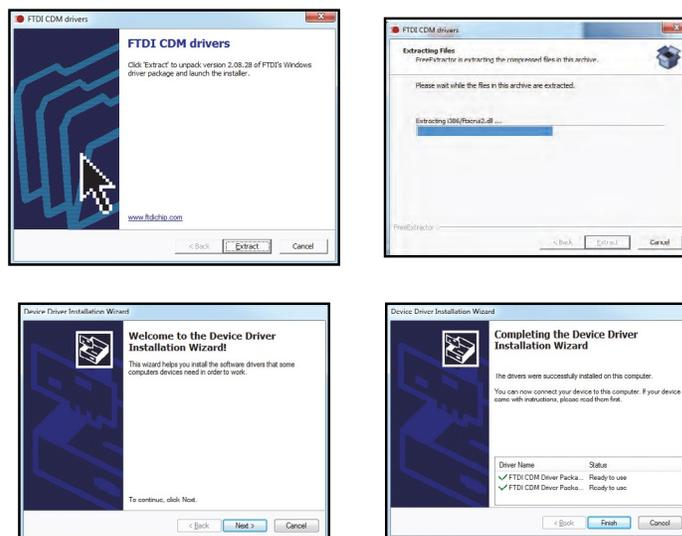

Figure 3.18. FTDI Driver Installation
4. Next, a utility program will automatically start to install FTDI drivers for the USB-to-RS485 communications between the FS3700 unit and the FlowView application on the PC. See Figure 3.18. Click **Unpack** to extract the driver installer. Click **Next** to begin the driver installation process. Click **Finish** when driver installation is complete.